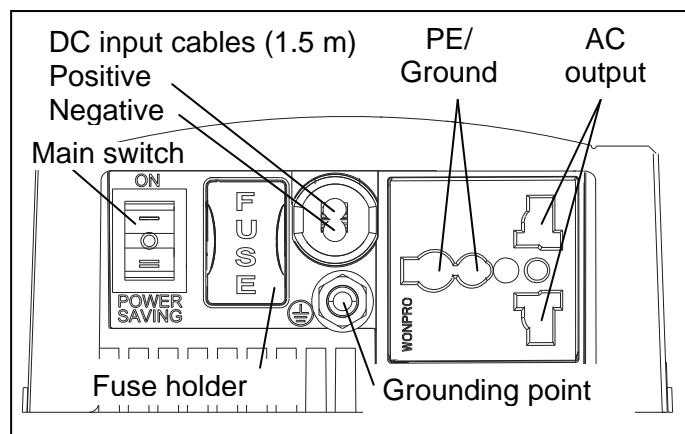

Figure 7: Overview connections
- Chassis ground: Use a cable AWG8 / 6 mm² to connect the GROUNDING POINT (figure 7) to the central ground.
The neutral connector N of the AC output (figure 7) is NOT connected to the Grounding point!
3. AC voltage: the load can be plugged into the AC output (figure 7) directly.